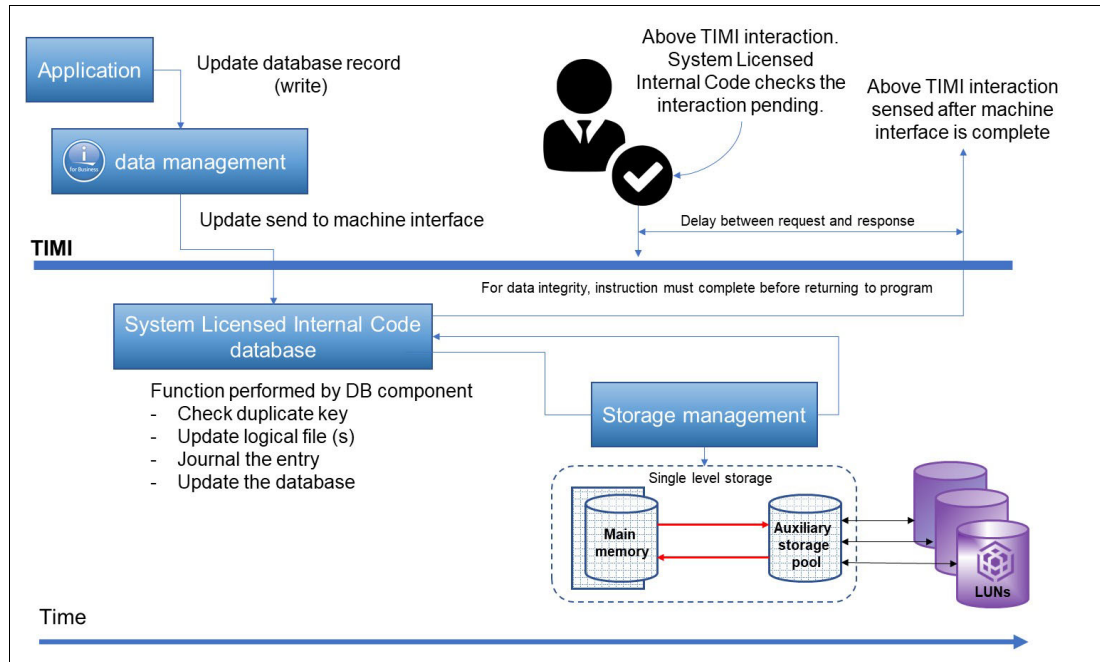

Figure A-4 TIMI atomicity
Other storage-related factors include the IBM i storage pool configuration for the application, how frequently the application closes files, and whether it uses journaling. An example is shown in Figure A-4 on page 600.
**Note:** In Figure A-4, the ASP is conformed and assigned LUNs from IBM Spectrum Virtualize to the IBM i. It shows an application request and update to a database record. Throughout the time that TIMI task is in progress, an interaction above TIMI can occur. This interaction does not continue until the TIMI task concludes.